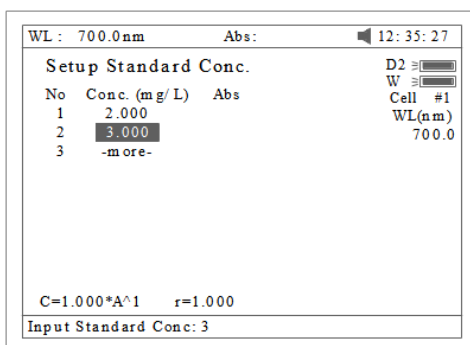
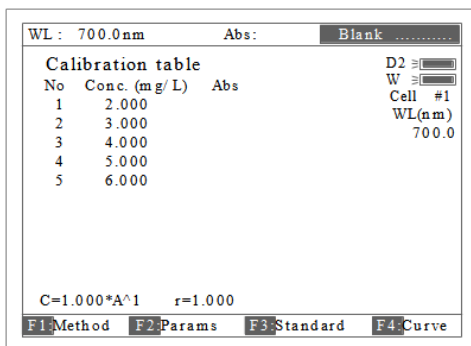

Fig 31
Fig 32
3.3.1 Enter standard concentrations of samples by pressing the Numeric keypad followed by **【ENTER】**. Press **【^】** or **【v】** to modify the inputted data (Fig31). Press **【ESC/STOP】** to finish inputting and to exit (Fig 32).
3.3.2 Push the blank cuvette into the Reference Light Path and Main Light Path, press **【0Abs/%100T】**, the instrument will step to the wavelength and blank. See Fig 32.